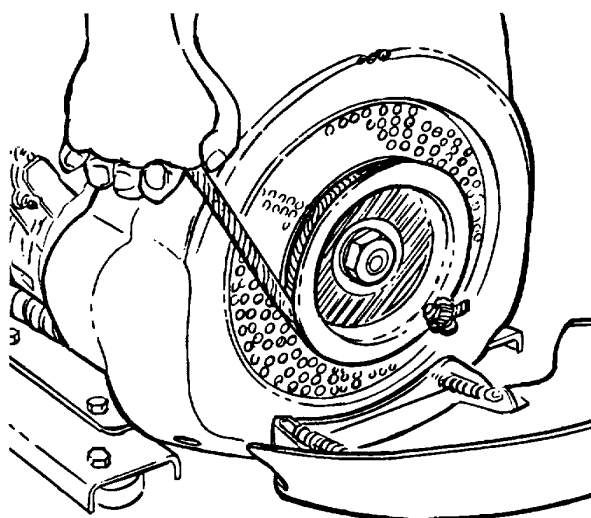

Figure 2-11. Rope Starting
- d. Rotate the pulley manually, in a clockwise direction, as viewed from the pulley side, until you find strong resistance. Then, wind the rope up on the starting pulley in a clockwise rotation, fig. 2-11.